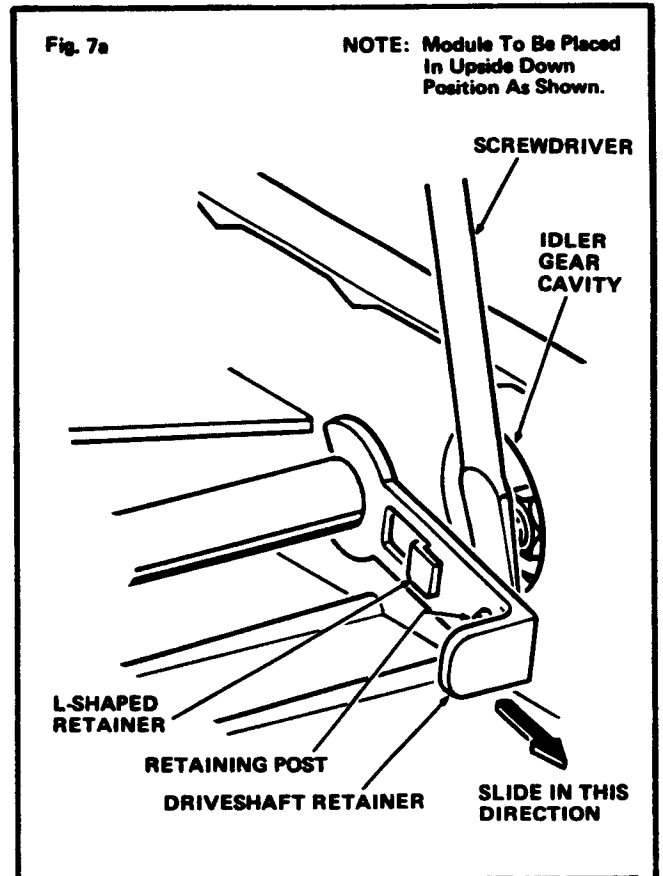

Fig. 7a
- a. Insert a screwdriver blade into the Idler Gear Cavity beneath the Driveshaft Retainer and apply upward pressure to lift the Driveshaft Retainer off of the Retaining Post. See Figure 7a.
- b. Pull the Driveshaft Retainer forward and then lift upward, over the L-shaped Retainer, to remove it from the Module Assembly. See Figure 7a.